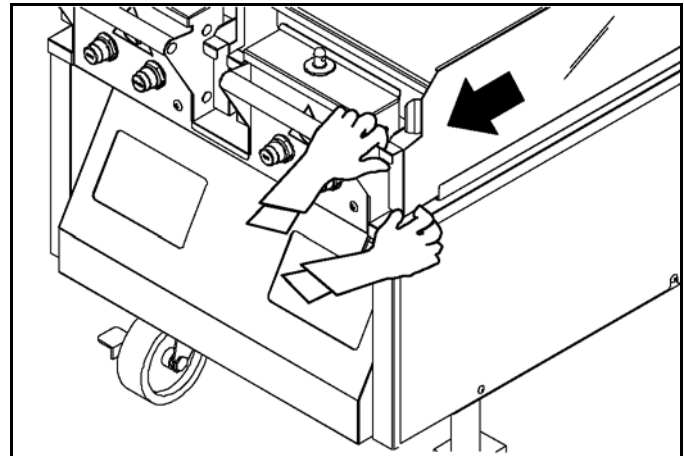

Figure-157
28. Remove and empty the grease cans and take them to the three-compartment sink. Leave them at the sink until the grill cleaning is finished. Continue through the clean mode until the lower plate rises. See Figure-157.